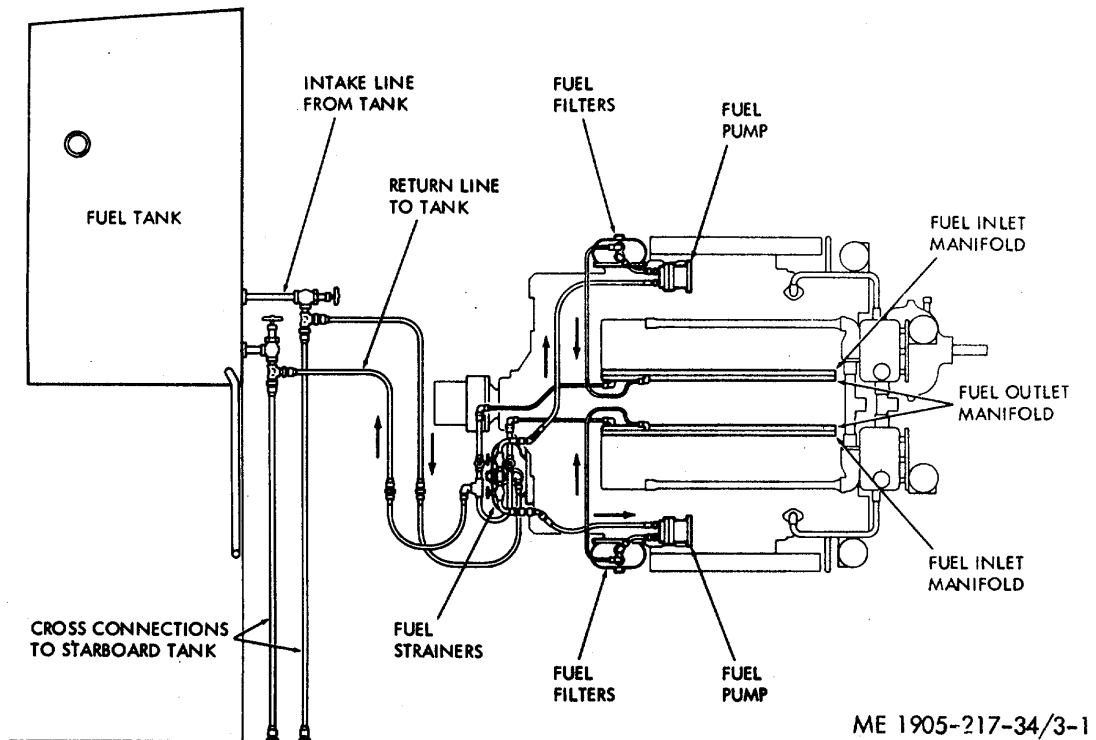

Figure 3-1. Fuel system diagram.
a. This diesel engine fuel system (fig. 3-1) consists of fuel inlet and outlet manifolds, fuel injectors, fuel pipes, fuel pumps, fuel valves, fuel filters and strainers, restricted elbow, and the necessary connecting lines.